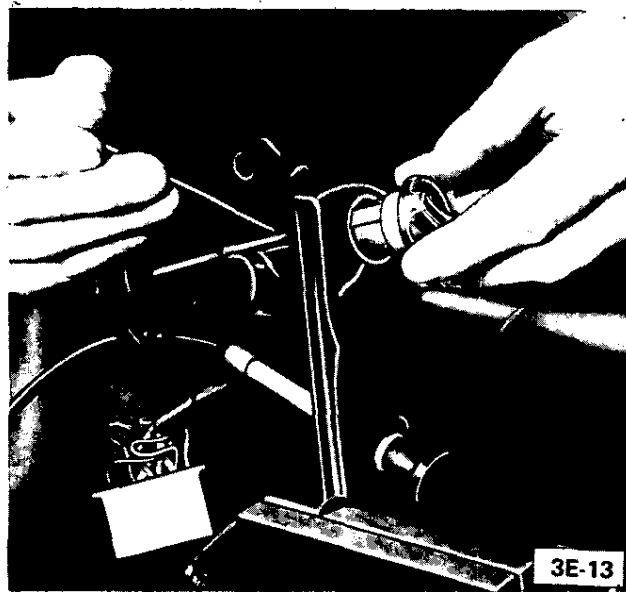

Figure 3E-13 Removing Ignition Lock Cylinder
3. Insert a suitable rod into stop pin hole on side of steering and ignition lock (See Figure 3E-13) and take out steering and ignition lock cylinder.